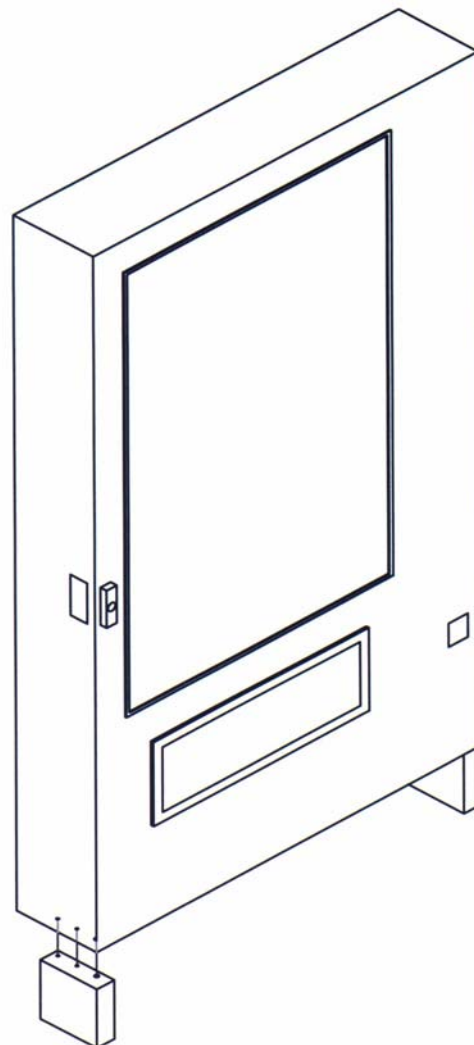

Figure 4. False Leg Installation.
1. Align the holes in the top of the false leg with the 1/8" holes on the left side of the bottom of the door (see Figure 4). The closed end of the false leg should be facing forward.